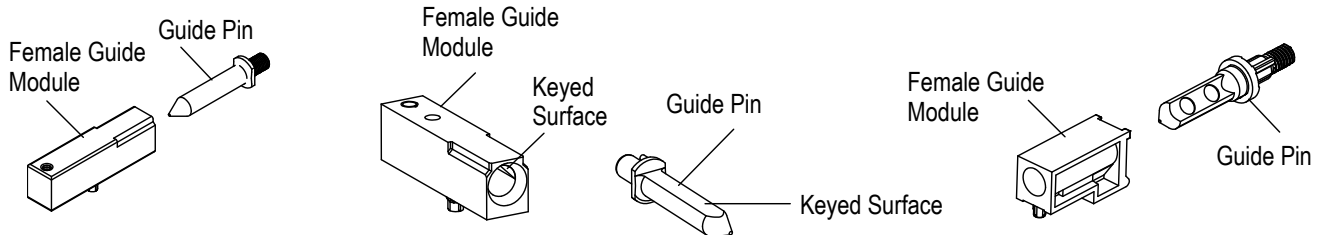

Figure 5
**C. Guide Hardware** (Figure 5)
The interaction of the guide pin and guide module provide error-free mating and prevents damage to the connectors. Guide hardware is recommended for multi-connector, large and heavy daughter card applications, and conditions where misalignment tolerances given in Section 3.7 cannot be met. Universal and keyed guide hardware are available for proper mating and allow up to  $\pm 3$  mm offset for blind mating. The guide hardware consist of a guide pin and guide module. The connectors require 2 guide pins (for the receptacle) and 2 guide modules (for the plug), which must be attached to the respective PWB. Refer to Fig. 5.